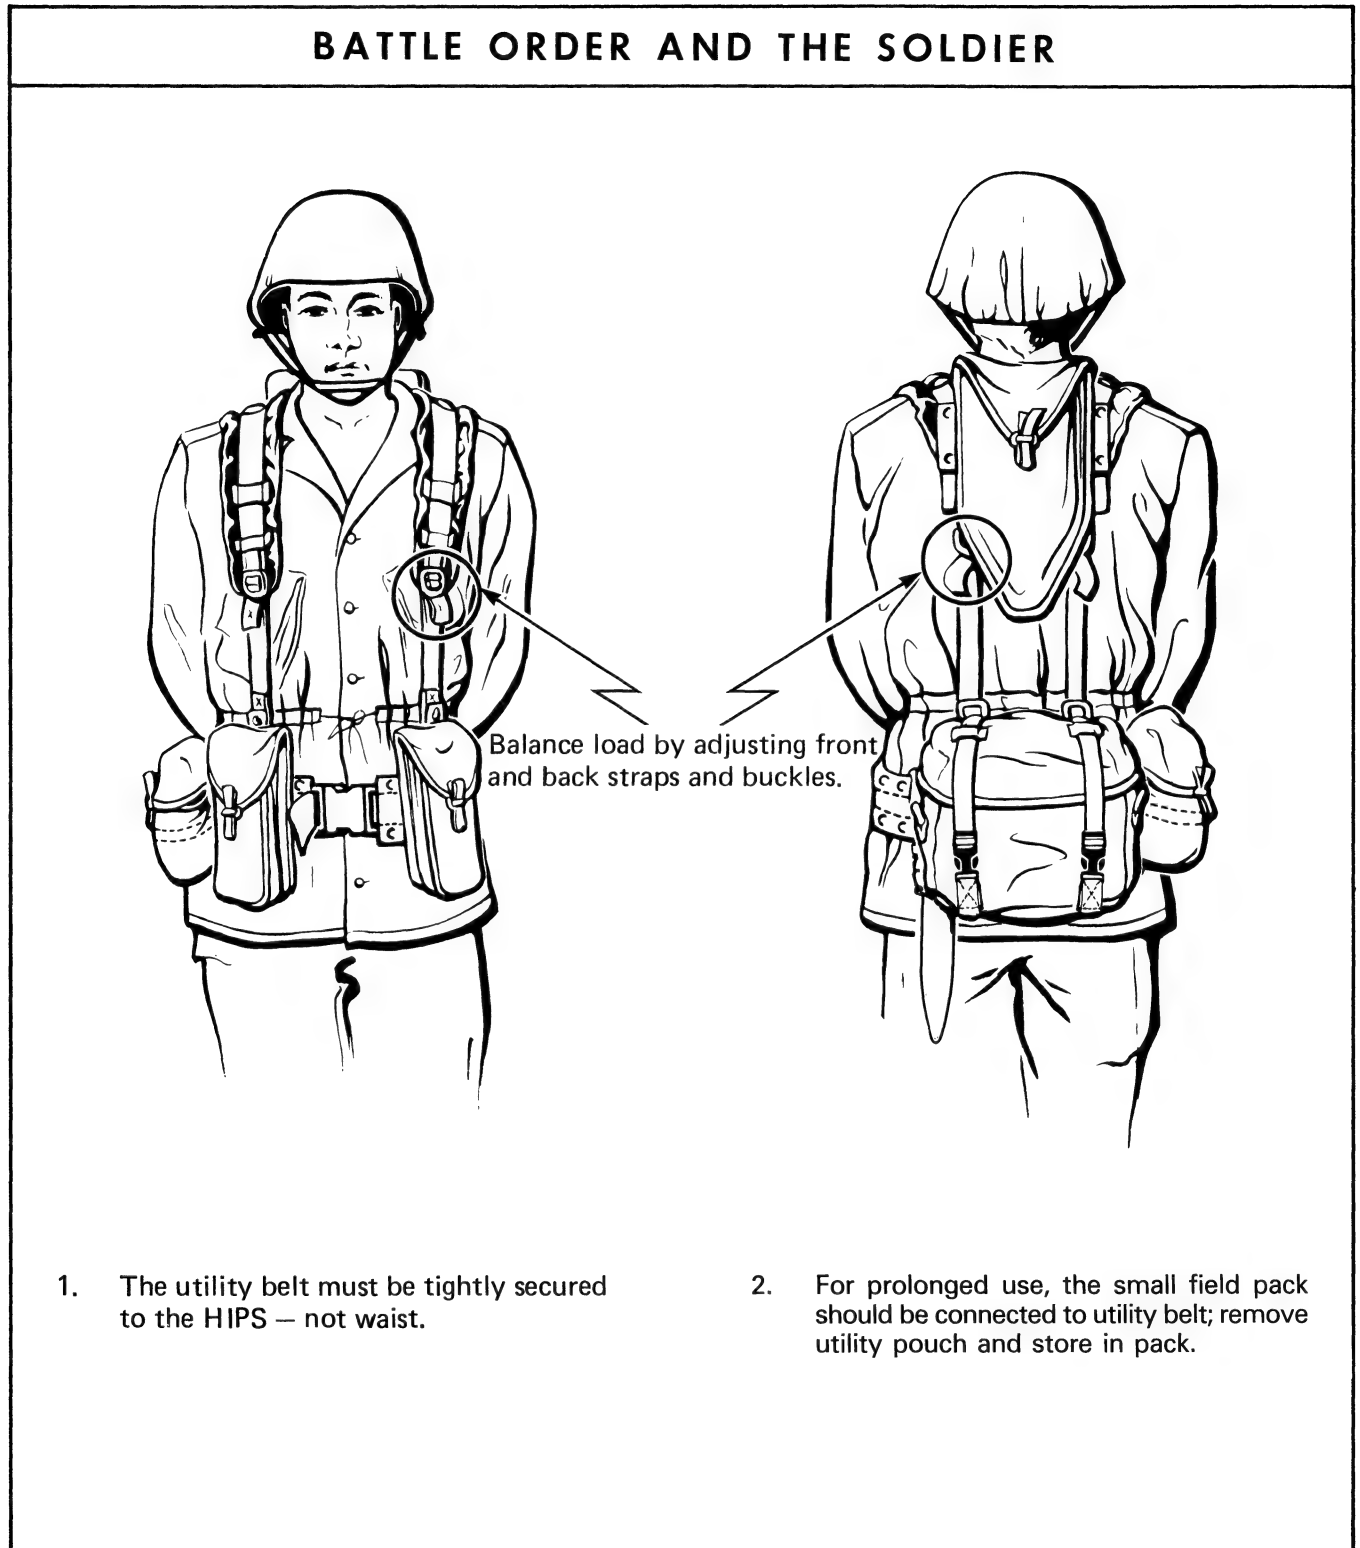

Figure 3-5 Battle Order and the Soldier
5. Refer to Figure 3-5 for details.